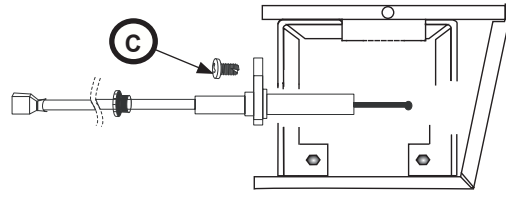

Fig. 9 - Igniter Electrode and Burner Box
6. Remove screw to igniter (Fig.9,C) electrode (behind burner connection); carefully remove electrode from burner box. Lay aside.
2. Insert spark-flame-sensor electrode into smaller, rear opening of burner box of the replacement cooling system with its "L" shaped tip pointing toward you (Fig.9).